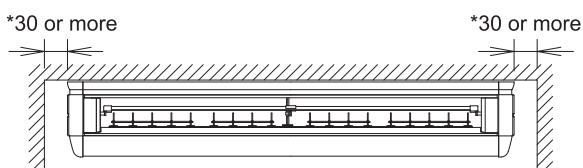
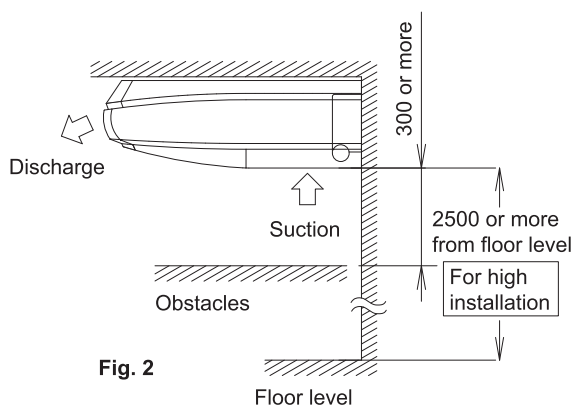

Fig. 1
Fig. 2
- Where a space sufficient for installation and service can be ensured. (Refer to Fig. 1 and Fig. 2)
See figure 1 on the inside of the front cover.